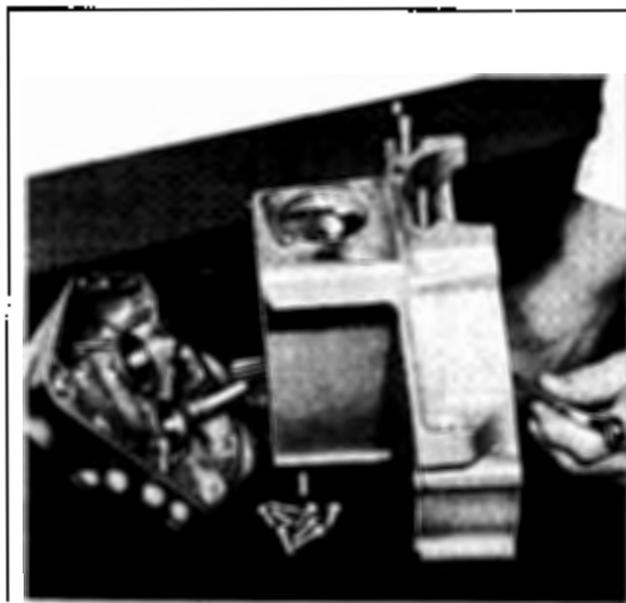

Figure 3-30. Line Reaming Cover Bushing
To ream pinion shaft bushing, insert reamer pilot in right crankcase roller race as shown in Figure 3-30. Insert $1/16$ in. Pinion Shaft Cover Bushing Reamer, Part No. 94805-57 (see Figure 3-76) through pilot and push into cover bushing until it bottoms, then give reamer one complete turn to size bushing. Rotate reamer the same direction (clockwise) during extraction.
8. If flywheels are to be disassembled, grip pinion shaft in vise and pull bearing from sprocket shaft using claw puller and wedge attachment (see Figures 3-78 and 3-79). Place wedge halves behind bearing and pull bearing off by tightening puller screw against sprocket shaft center as shown in Figure 3-30. Keep bearings in a set with proper bearing outer races.